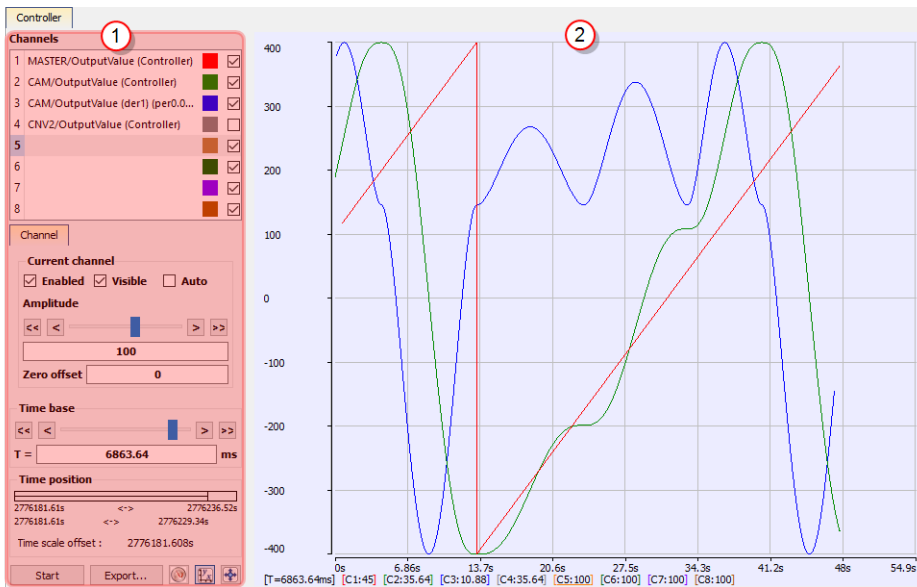

Figure 10-23: Example of using the Oscilloscope
- The scope (e.g., Figure 10-23: "Example of using the Oscilloscope") has a set of channels where each can acquire the evolution of a value.